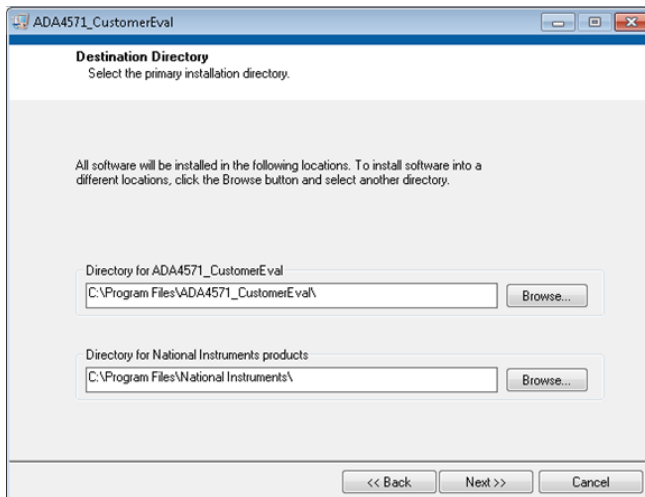

Figure 2. Choose Destination Location
2. When the **Destination Directory** screen appears (see Figure 2), click **Next**. Optionally, you may change the destination folder by clicking **Browse**, selecting a different destination folder, and clicking **Next**.